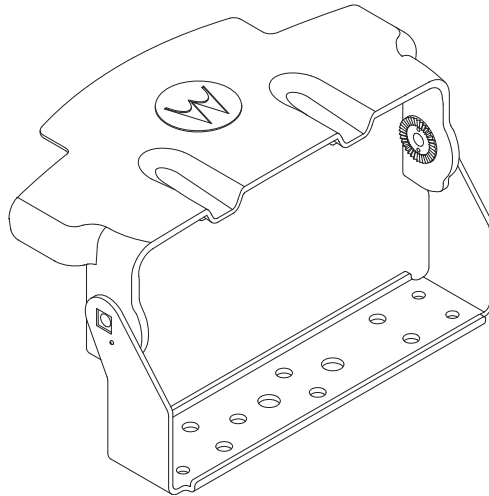

Figure 5-19. Remote Mount Trunnion with Sunshield
1. Assemble the sunshield to the remote mount trunnion as shown in Figure 5-19. The same process can be used for the motorcycle trunnion.